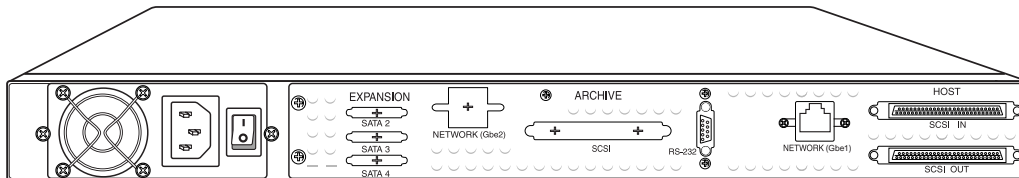

Figure 20. Back Panel of the Rack-Mount CP 3100
2. Connect an LVD Male HD68 SCSI cable (not provided) to the **SCSI IN** connector (upper connector) on the back panel of the CP 3100 (see Figure 20 on page 41).
1. Connect an LVD Male HD68 SCSI cable to the **ARCHIVE SCSI** connector on the back panel of the desktop CP 3100 (see Figure 20 on page 41).
- If the CP 3100 is the last device in the SCSI chain, connect the supplied SCSI terminator to the **SCSI OUT** connector (lower connector) on the back panel (see Figure 20 on page 41).
1. Connect an Ethernet cable to the **NETWORK (Gbe1)** connector on the back panel of the CP 3100 (see Figure 20 on page 41).
2. Attach the power cord securely to the power connector on the CP 3100 (see Figure 20 on page 41).